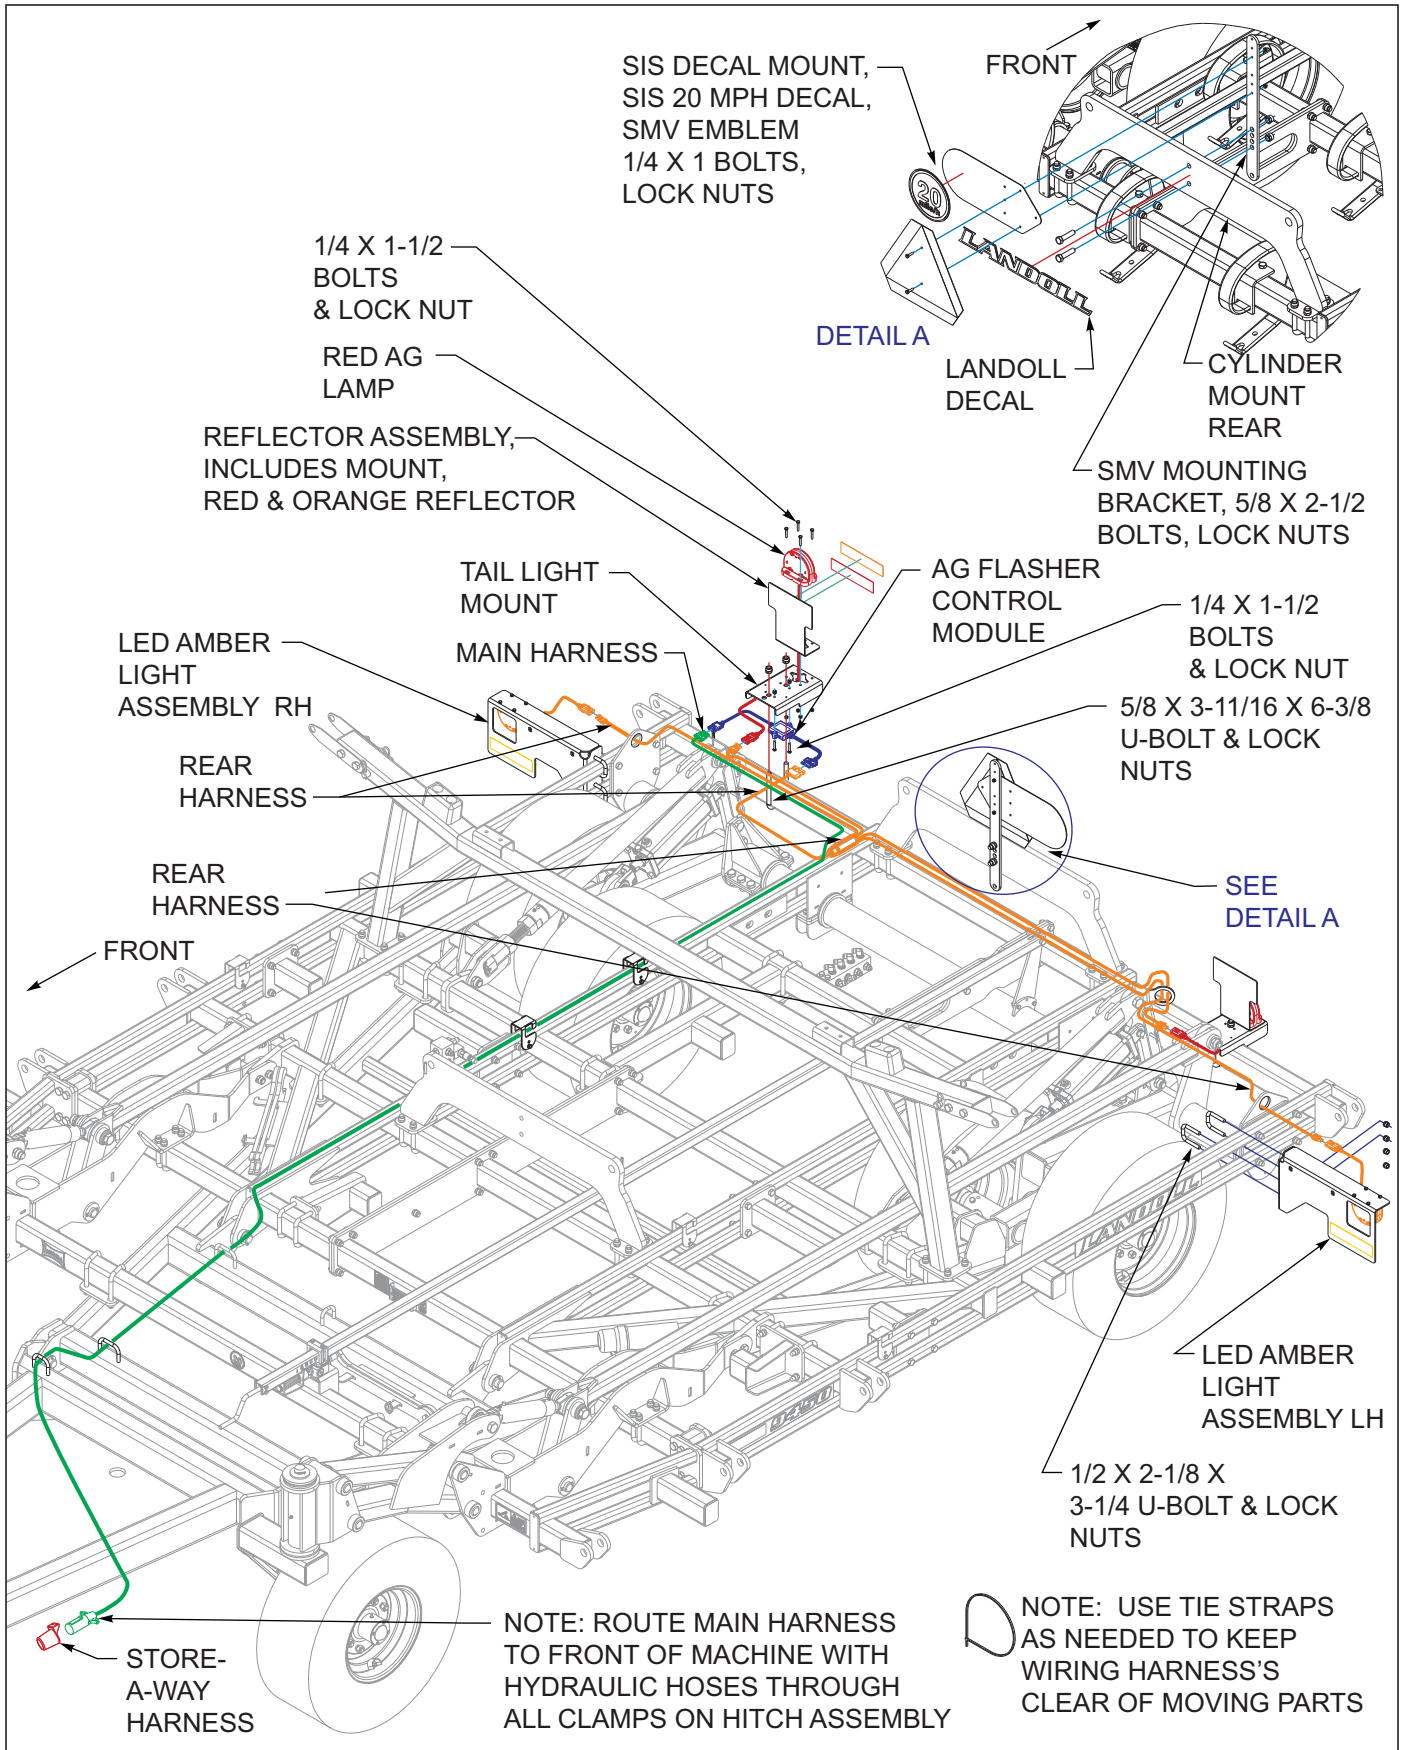
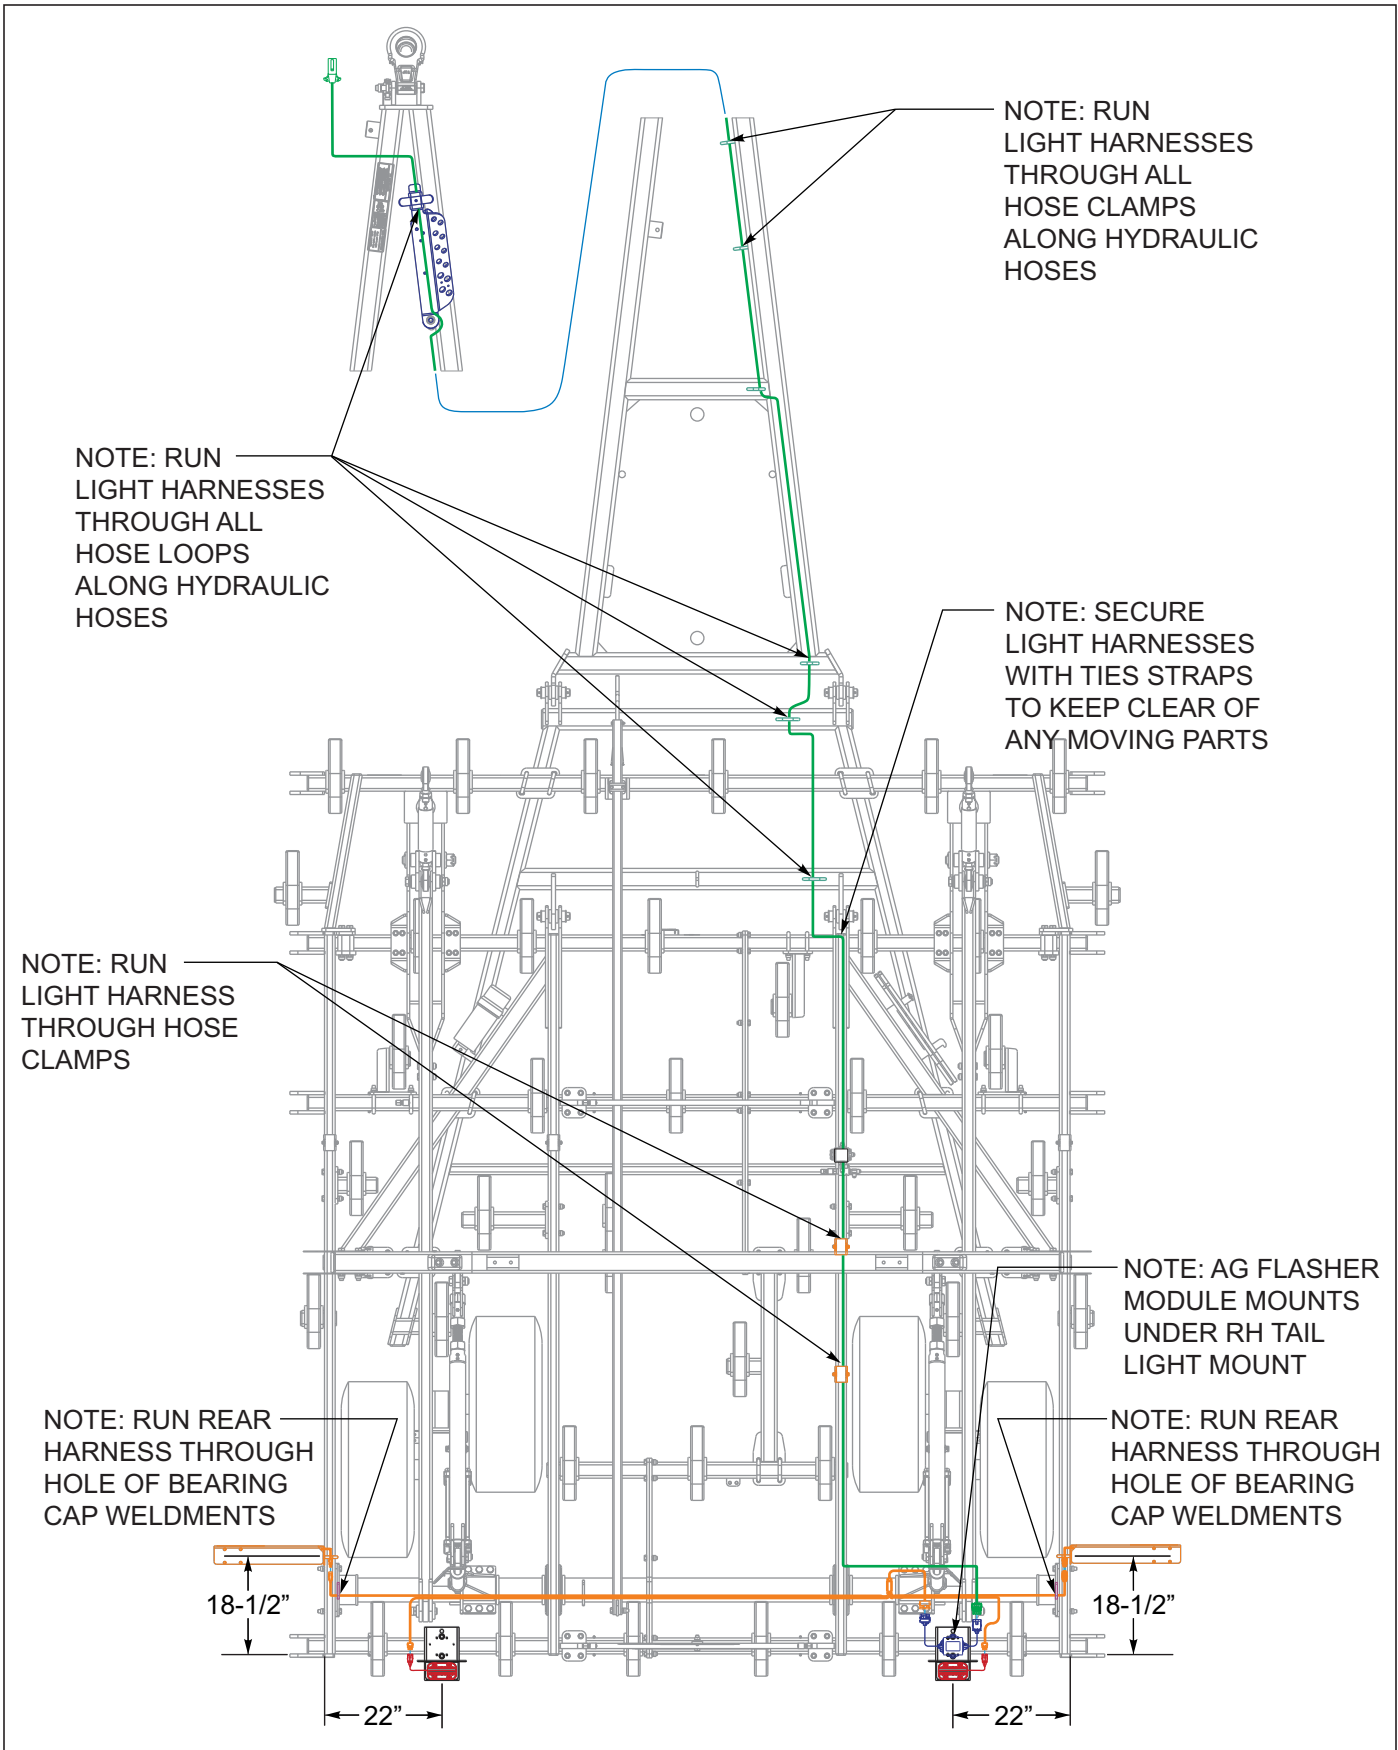

Figure 3-25: LED Light Installation
Figure 3-26: LED Light Layout
1. Attach LH and RH light bracket assemblies to center frame using 1/2 x 2-1/8 x 3-1/4 u-bolt and lock nuts **See Figures 3-25** and **See Figures 3-26** for light bracket placement location.
8. Insure that the harnesses are clear of any moving parts and secure the harnesses with tie straps provided. **See Figures 3-26** for light harness routing.
11. Attach the smv mounting bracket to front side cylinder mount rear with 5/8 x 2-1/2 bolts and 5/8 lock nuts **See Figures 3-25** Detail A.